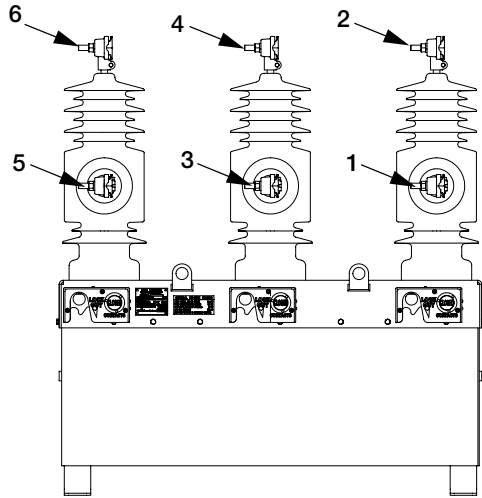

Figure 6. Terminal Identification of the NOVA STS recloser.
- A. Connect high-voltage lines to recloser bushings terminals. Refer to Figure 6 for terminal identification of the NOVA STS recloser. Terminal connection to copper conductors only are recommended.